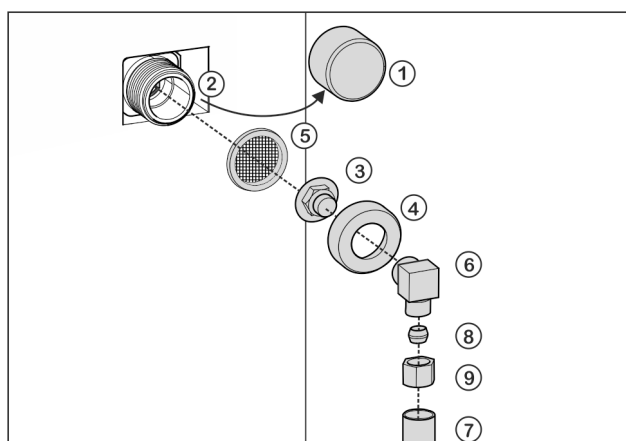

Fig. 22
- ▶ Remove cap Fig. 22 (1) from solenoid valve Fig. 22 (2).
- ▶ Insert coupler Fig. 22 (3) into union nut Fig. 22 (4).
- ▶ Insert the filter *Fig. 22 (5)* with the recess pointing down towards the coupler *Fig. 22 (3)*.
- ▶ Screw the union nut *Fig. 22 (4)* by hand onto the thread of the solenoid valve *Fig. 22 (2)* until it is firmly in place.
- ▶ Screw on angle piece *Fig. 22 (6)*.
- ▶ Connect the water pipe *Fig. 22 (7)* [e. g. 1/4" OD copper pipe] with the clamp ring *Fig. 22 (8)* and nut *Fig. 22 (9)* to the elbow connector *Fig. 22 (6)*.
- ▶ If necessary: Fasten the water pipe *Fig. 22 (7)* to the housing with the guide clip.
- ▶ Put angle piece *Fig. 22 (6)* to one side.
- ▶ Connect the water pipe *Fig. 22 (7)* [e. g. 1/4" OD copper pipe] with the clamp ring *Fig. 22 (8)* and nut *Fig. 22 (9)* to the coupler *Fig. 22 (3)*.